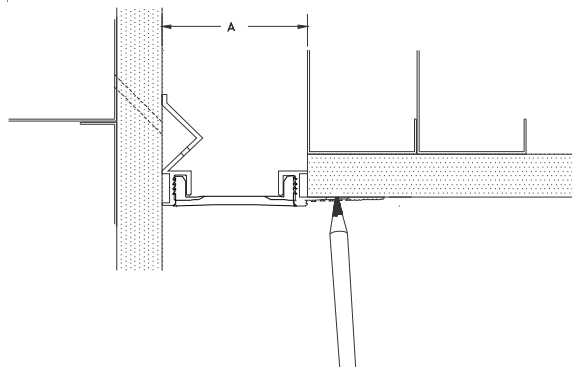

Figure 7
**STEP 9.** Use the assembled joint cover as a template, and mark the locations for the anchors on the wall (see Figure 7). Ensure that the joint cover is properly centered over the joint. Remove the joint cover system from its installed position, and drill the anchor holes into the wall at the marked locations. For steel stud and gypsum wallboard walls, drill pilot holes into the steel studs for the self-tapping screws. For concrete walls, drill the anchor holes 1/4" deeper than the length of the anchors. Clean away all dust and debris from the wall.